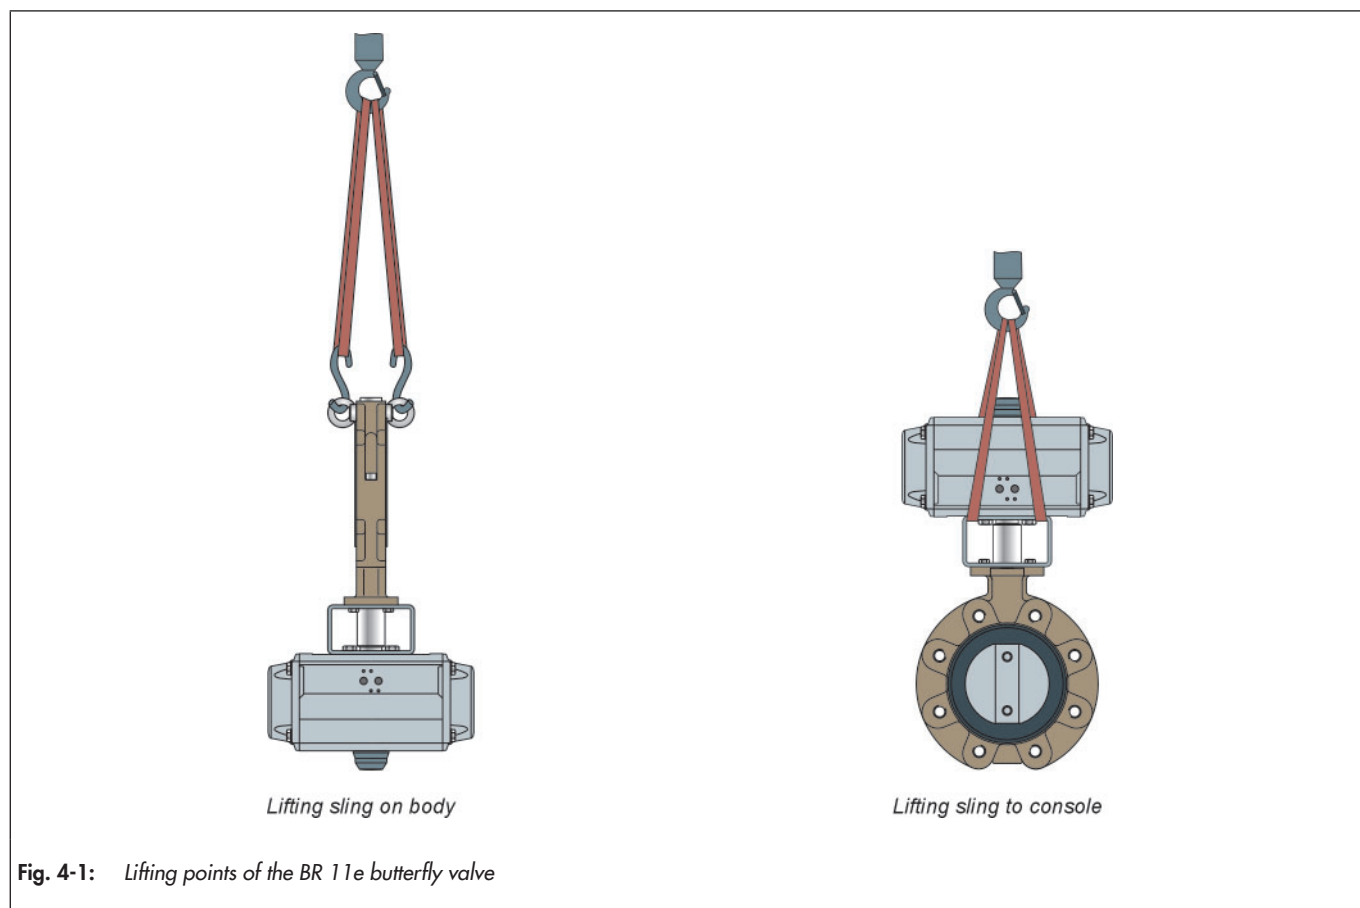

Fig. 4-1: Lifting points of the BR 11e butterfly valve
- ⇒ Use a hook with a safety clamp as the suspension element so that the sling cannot slip off the hook during lifting and transport, see Figure 4-1.
- ⇒ Fasten a lifting sling to each suspension element (e.g. hook) of the crane or forklift, see Figure 4-1. When doing so, ensure the safety, bearing capacity and length of the lifting slings.
- ⇒ Fasten a lifting sling to the bracket and the suspension element (e.g. hook) of the crane or forklift, see Figure 4-1. When doing so, ensure the safety, bearing capacity and length of the lifting slings.